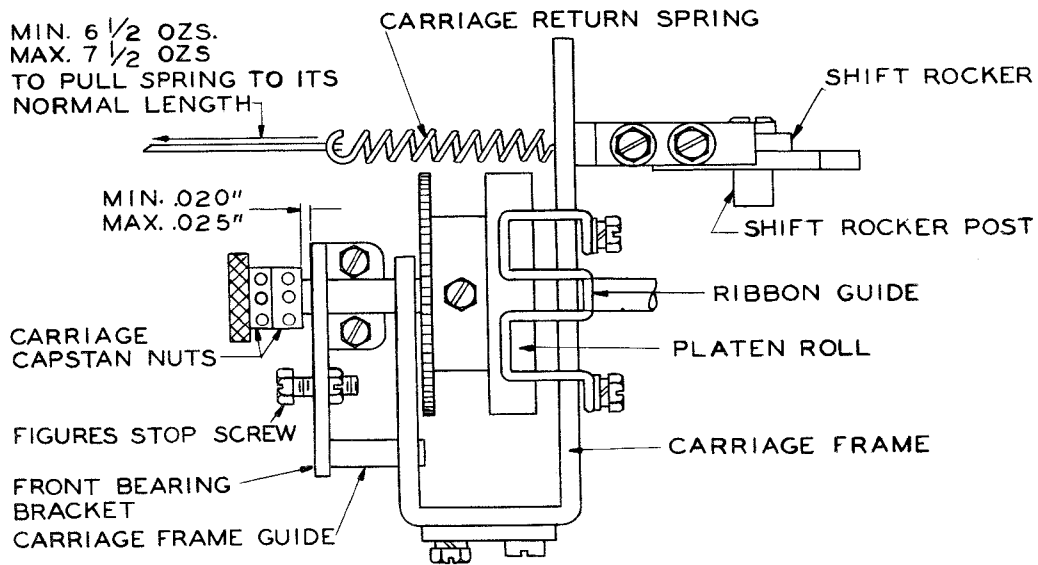

Figure 14
To Adjust: Reposition the platen-shaft front bearing bracket and if necessary free or replace the shift rocker, shift-rocker lever, and lockout bearings. For identification of parts see Figure 14.
2.26 Shift Rocker shall be parallel to the platen-shaft. Gauge by eye. (See Figure 14.)
(See Figure 14.)
- 2.31 Rear Capstan Nut shall clear the carriage front-bearing bracket by minimum 0.020 inch, maximum 0.025 inch when the carriage is latched in the LTRS position. (See Figure 14.)
- 2.34 Carriage-return Spring tension shall be minimum 6-1/2 ounces, maximum 7-1/2 ounces measured when the carriage is in the LTRS position. (See Figure 14.)